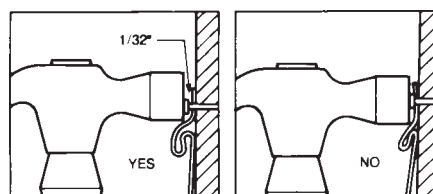

FIG. 6 Attachment of Vinyl Siding
- 9.1.1 When applied, vinyl siding products must be attached “loosely,” leaving approximately a $\frac{1}{32}$ -in. (0.8-mm) space between the vinyl and the fastener head or crown to permit thermal movement. (See Fig. 6.)